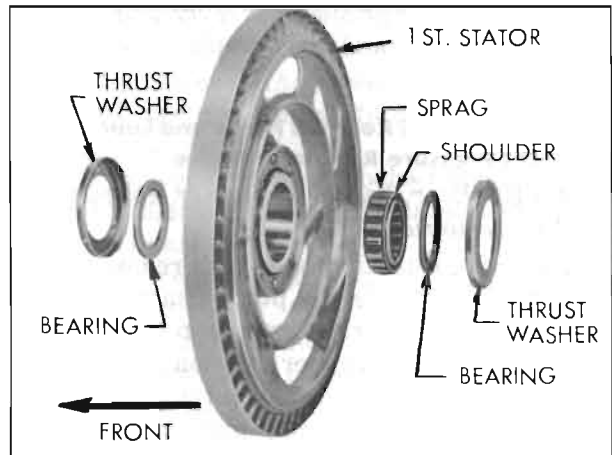

Figure 5-43—First Stator Parts
4. Pry off the cupped thrust washers and remove the first stator bearings and sprag assembly. See Figure 5-43.
11. Lay first stator on bench with thick edge of blades up. Refer to Figure 5-43, then place first stator sprag in hub of first stator with shoulder up. Install one bronze bearing and one cupped thrust washer on each side of sprag.